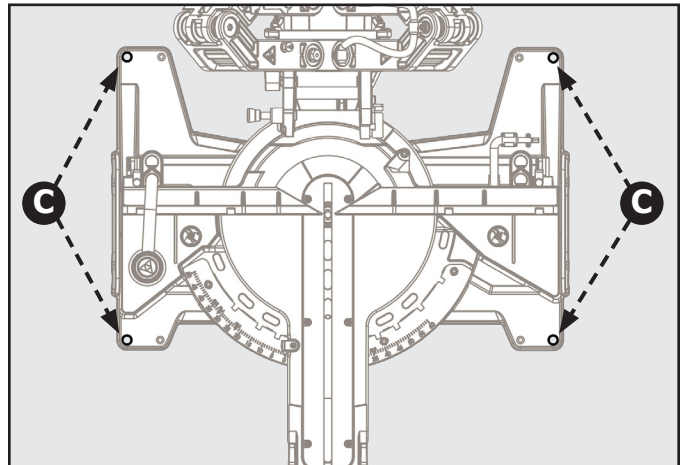

Figure 6
**⚠ WARNING:** To ensure safe and accurate operation, this saw should be mounted to a stable and level surface such as a workbench. To mount the tool to a stable surface, refer to Figure 6 and do the following: